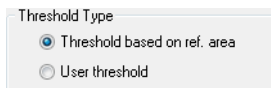

Figure 7-41 The Threshold Type group box
2. In the **Threshold Type** section (see Figure 7-41 on page 379), select the criteria for the Binarization: